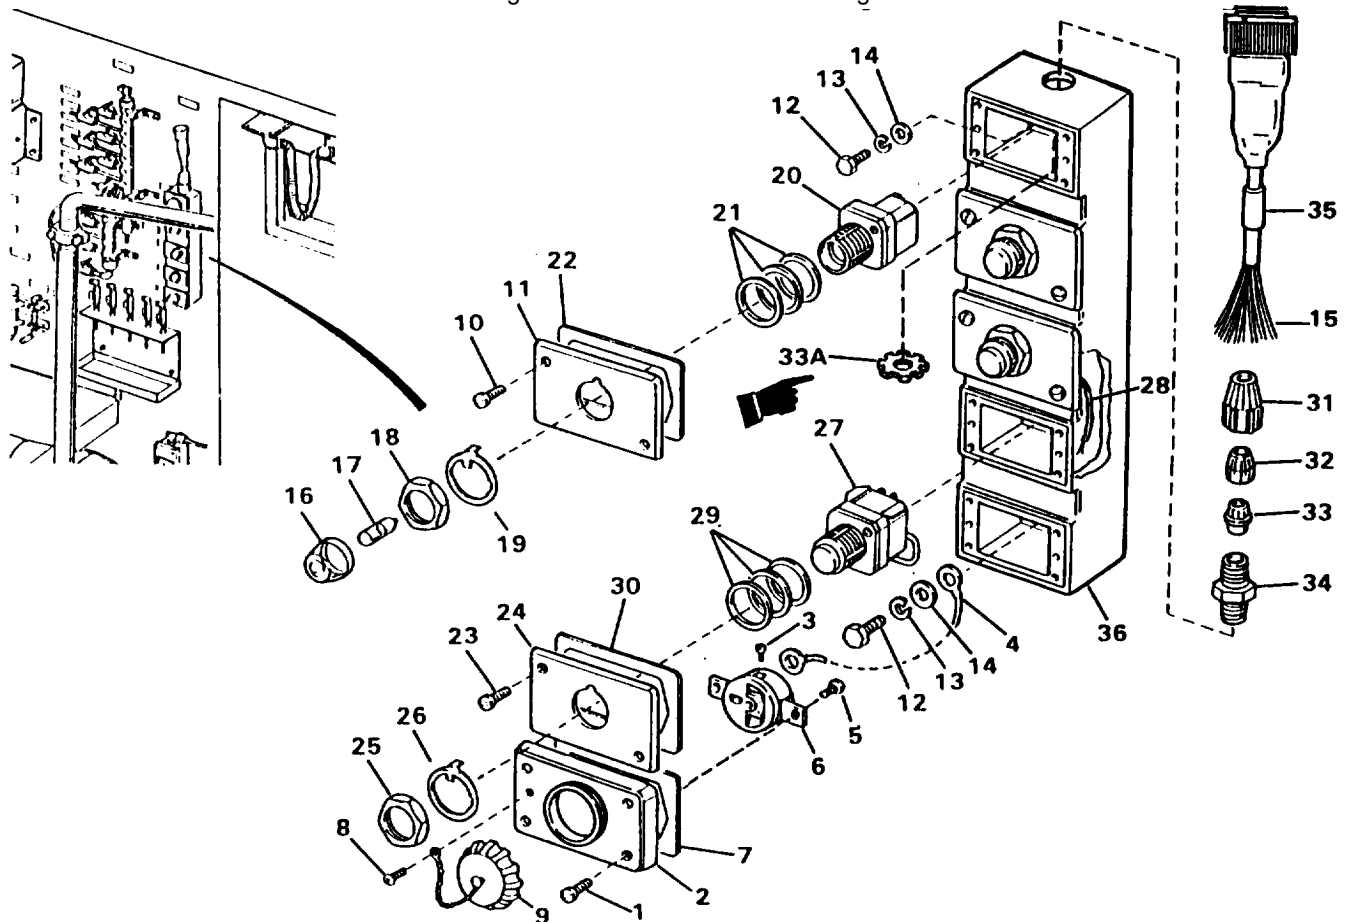

Figure 4-32. Switch Panel No. 1
- a. Disconnect cable assembly connector P29 (Figure 4-32) from power source connector J29.
- b. Remove four screws (1) and pull outlet box (2) (with receptacle (6) and wires attached) out of housing (36).
- c. Remove two screws (10) and pull plate (11) out of housing (36).
- d. Remove twocapscrews (12), two lockwashers (13) and two washers (14).
- e. The entire assembly is now free and can be moved to a disassembly area. Ground wire (4) is also free of housing (36).
- a. Tag and disconnect three wires (15) and ground wire (4) from receptacle by removing four screws (3).
- b. Remove assembled parts (2, 9, 5 and 6) and gasket (7). If necessary, remove screw (8) and dust cover (9).
- c. Remove two screws (5) and receptacle (6).
- d. Disconnect and tag wires leading to lamp housing (20).
- e. Unscrew lens (16) and remove lamp (17) by turning it counterclockwise.